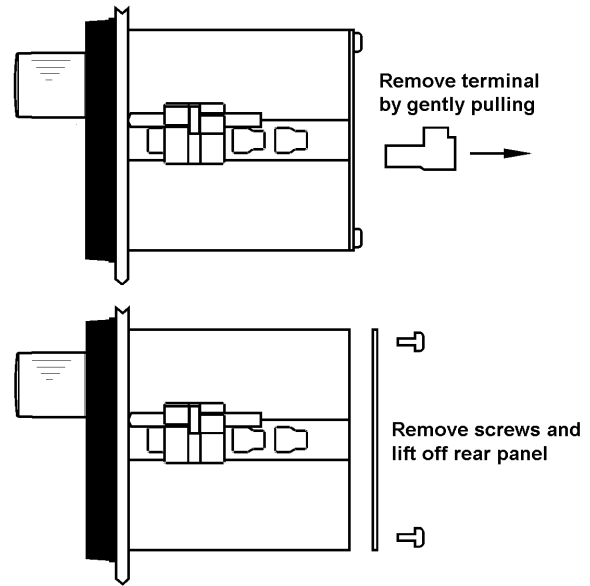

Fig 5 Removal of rear panel
The display is calibrated by plug-in links and two multi-turn potentiometers that are accessible through holes in the rear panel. To gain access to the links the rear panel must be removed as shown in Fig 5.
- a. Remove the rear terminal block(s) and the rear panel as shown in Fig 5.